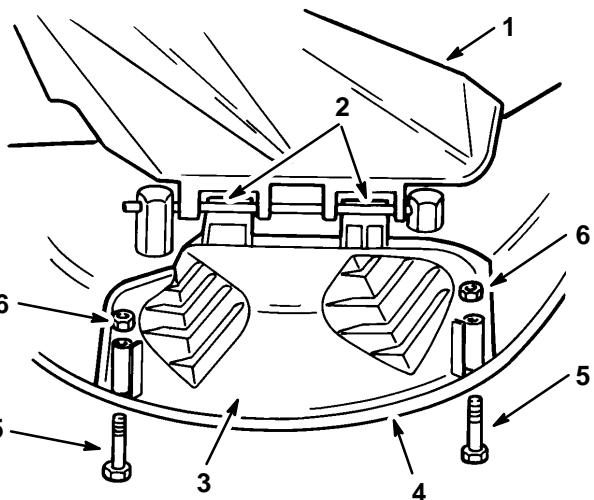

Figure 6
1. Lift the grass deflector and slide the tabs on top of the discharge cover under the grass deflector retaining rod. Rotate the discharge cover down over the opening, and onto the lower lip of the mower (Fig. 6).
2. Secure the discharge cover to the lower lip of the mower with $1/4$ –20 x $2\frac{3}{4}$ " bolts and $1/4$ –20 nuts (Fig. 6).